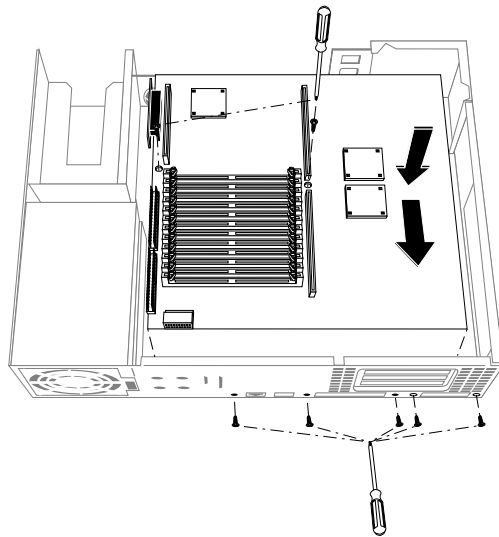

Figure 8-40 Installing the CPU Baseboard in the Indigo² Chassis
10. Install the new CPU baseboard, as shown in Figure 8-40.